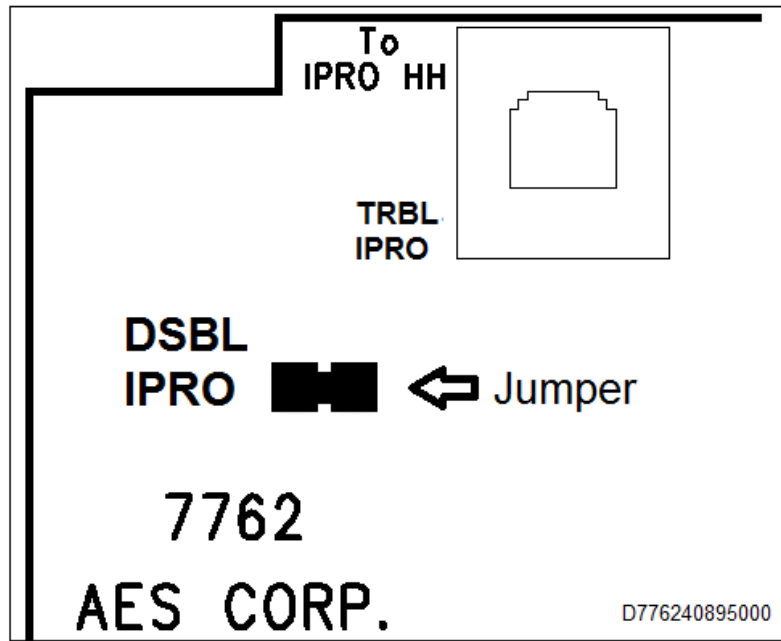

Figure 7.
**NOTE:** The DSBL IPRO jumper **MUST BE PRESENT** as shown in Figure 7. Failing to jumper DSBL IPRO will result in 7762 reporting false trouble condition.